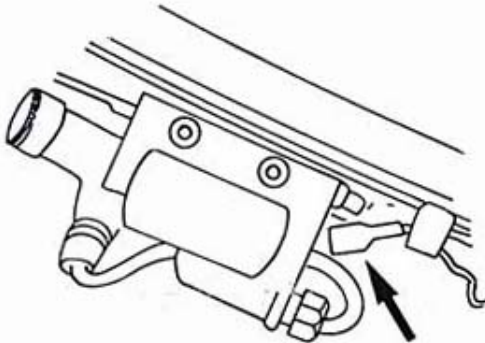

Fig. 1
- Disconnect the grey wire from the ignition coil (fig. 1).